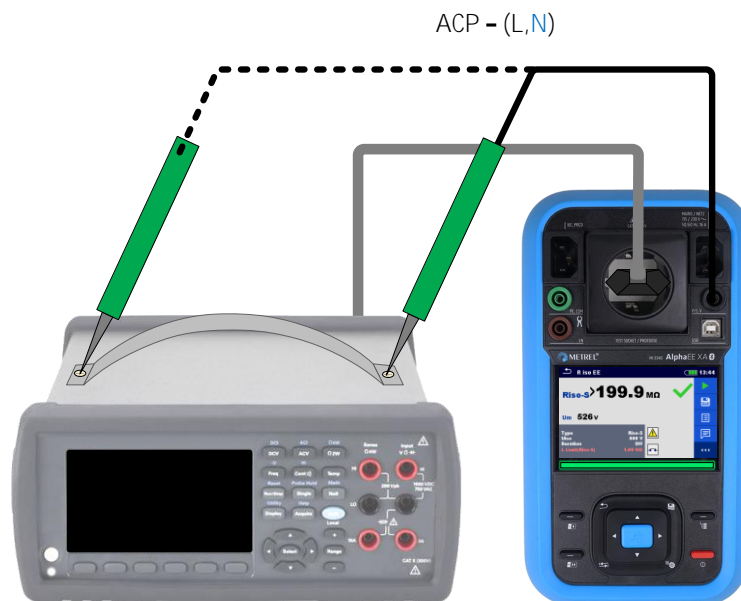

Figure 105_Insulation resistance Class II
- Connect the DUT according to the connection diagram Figure 104_Insulation resistance Class I or Figure 105_Insulation resistance Class II,